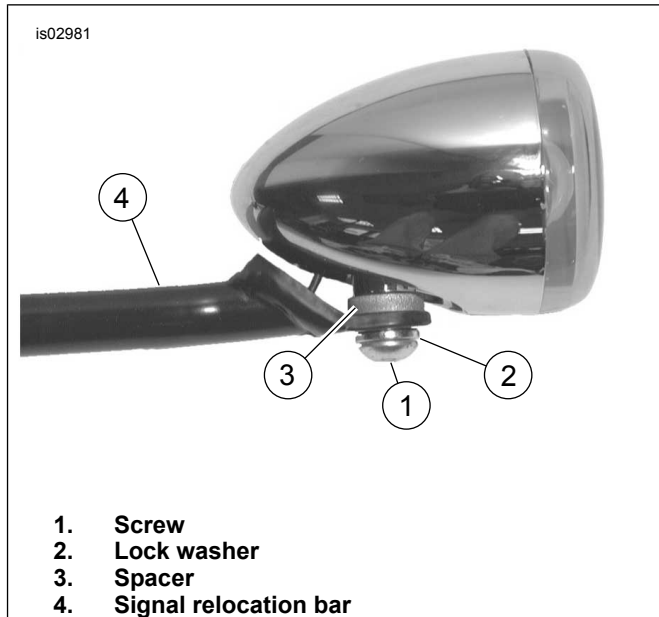

Figure 9. Installing 2-3/8 Inch Turn Signals (Deuce Style)
4. **Installing 2-3/8 inch (Bullet Style) Signal Lamps**, see Figure 9. Apply Loctite 243 (Blue) (Harley-Davidson Part Number 99642-97) to screw (1), (Part Number 4092). Using screw, lock washer (2), (Part Number 7041) and spacer (3), (Part Number 65849-01), attach lamp to signal relocation bar (4) as shown. Spacer should be installed between signal and signal relocation bar. Tighten securely. Repeat Steps 2 and 4 for the opposite signal.